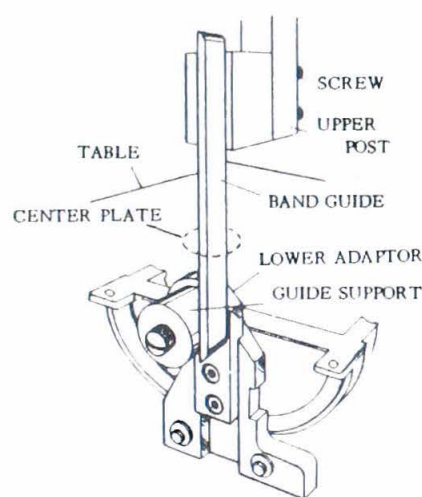

Figure 27
1. Mount the polishing band guide support on the lower post block, as shown in Fig. 27. The same mounting screws are used for both the band polishing and filing attachments.